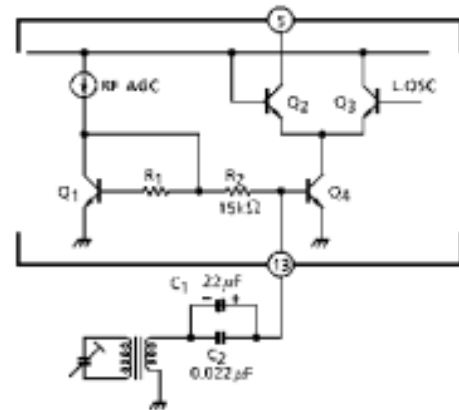

Fig.4
- RF amplifier (see Fig.4)
This stage is composed of emitter-grounded amplifier, the input impedance of which has about 7.3kΩ. It is necessary to connect as Fig.4, because the condenser, C1 is available to the audio by-pass of the RF-AGC, the noise of low frequency.